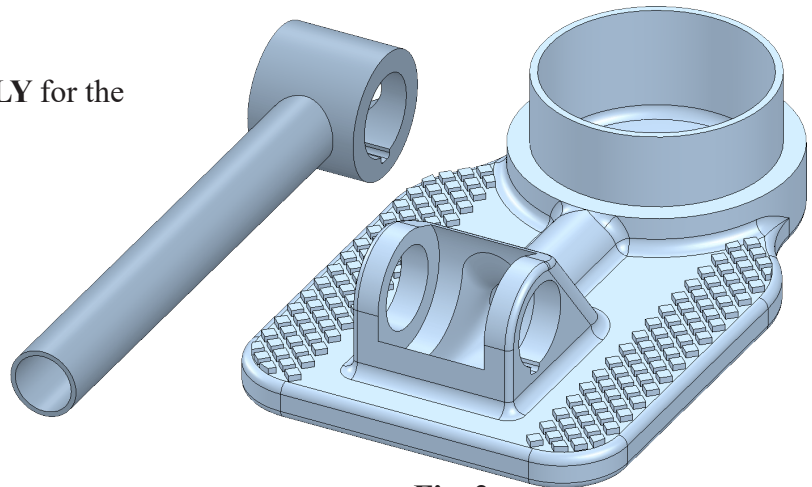

Fig. 2
Step 6. Click approximately where Tube is positioned in **Fig. 2**.